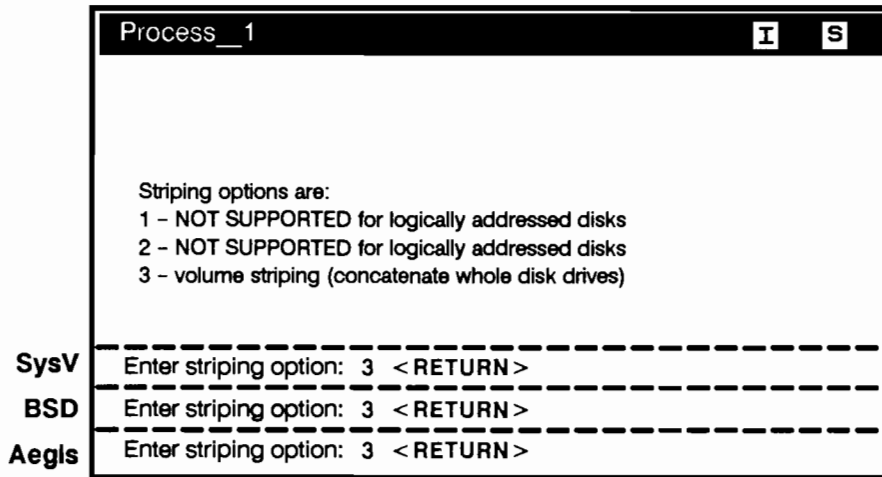

Figure 3-39. *invol* Prompt for Striping Option
6. Then **invol** prompts for the algorithm to use to spread disk blocks across the multiple drives in a set as shown in Figure 3-39.